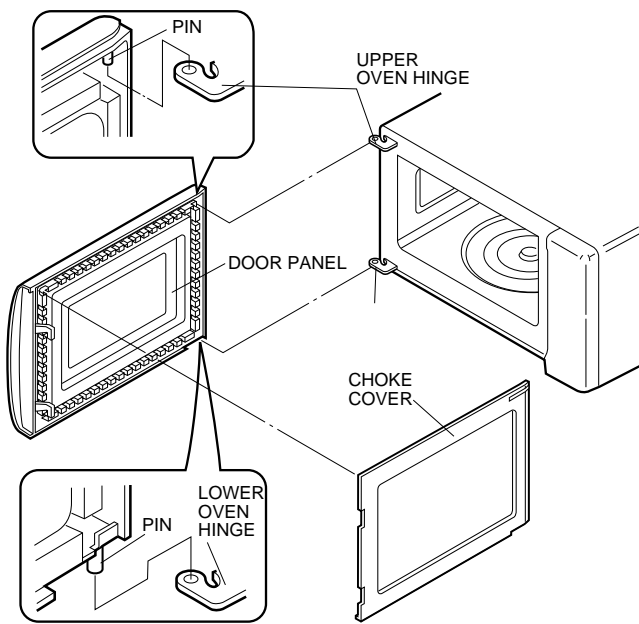

Figure C-8. Door Replacement
4. Try the principles of the lever and lift up the choke cover by inserting a putty knife in order shown in figure C-8.
7. Release two (2) pins of door panel from two (2) hole of upper and lower oven hinges by lifting up.
9. Release door panel from ten (10) tabs of door frame and remove door frame by sliding the door panel downward.